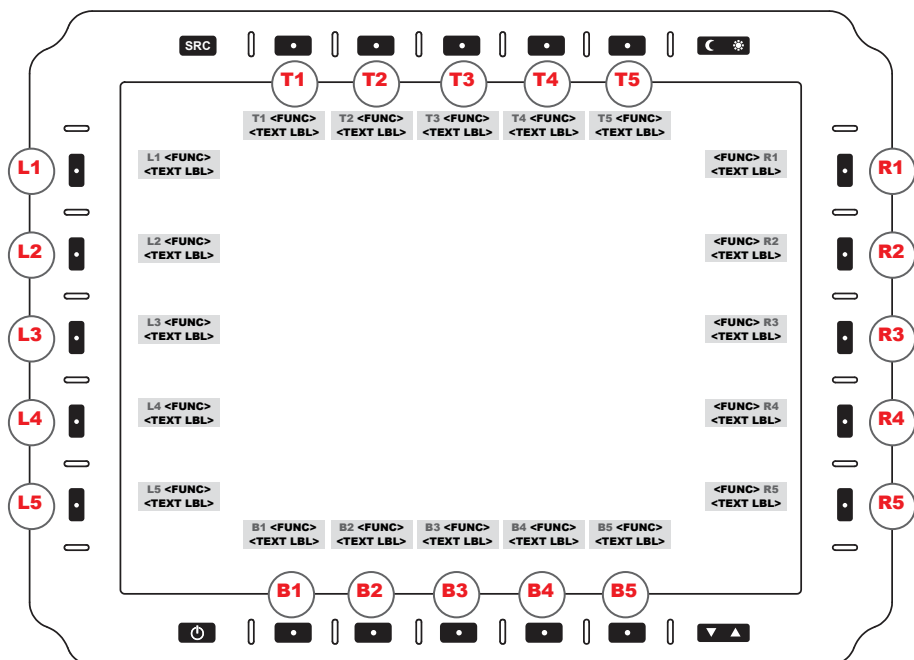

Figure 29
- VIDEO SOURCES: All ENABLED; Composites (RS170) (4)
**PROGRAM BTN (L2).** Initiates Programmable Softkey (Setup) Menu (Figure 29).
The front bezel twenty (20) softkeys are in a layout of five keys on the left (L1-5), right (R1-5), bottom (B1-5) and top, (T1-5) (Figure 29). Use these keys to select on-screen menu options. The keys are illuminated in Day or Night mode and off in Off mode. Night luminance is subdued to match existing platform night lighting.
BACK (R5). Returns to Select Softkey Menu, (Figure 29).